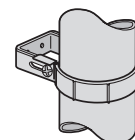

Fig. 9b 144 Bracket on pipe
**Step 3** – Locate strap tongues inside backplate (Fig.9b)